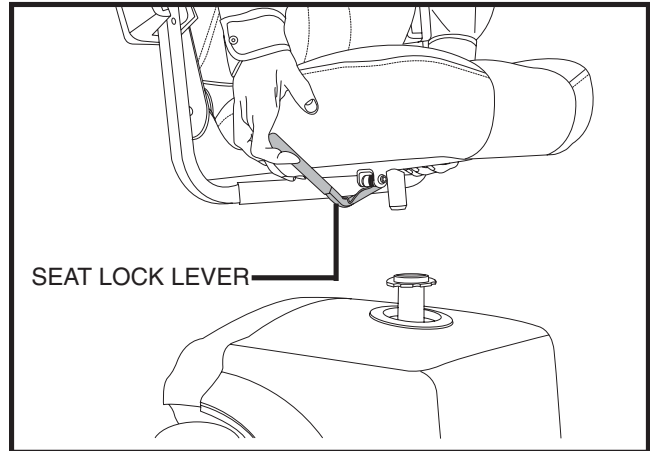

Figure 11. Seat Removal
3. Pull up on the seat lock lever and lift the seat straight up and off the scooter. See figure 11.